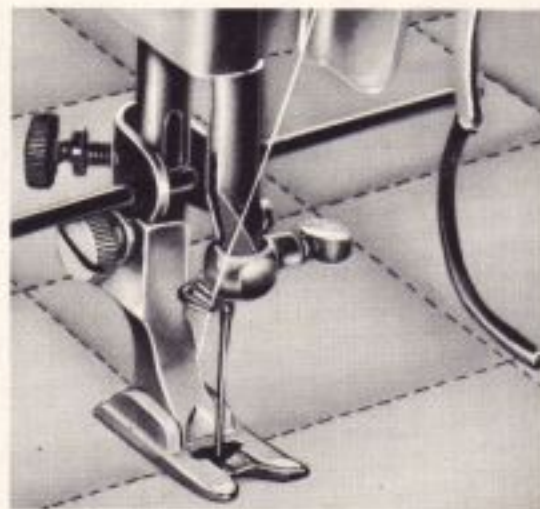

Fig. 31
1. Attach adjustable quilting stitching guide to presser foot bar (Fig. 31).